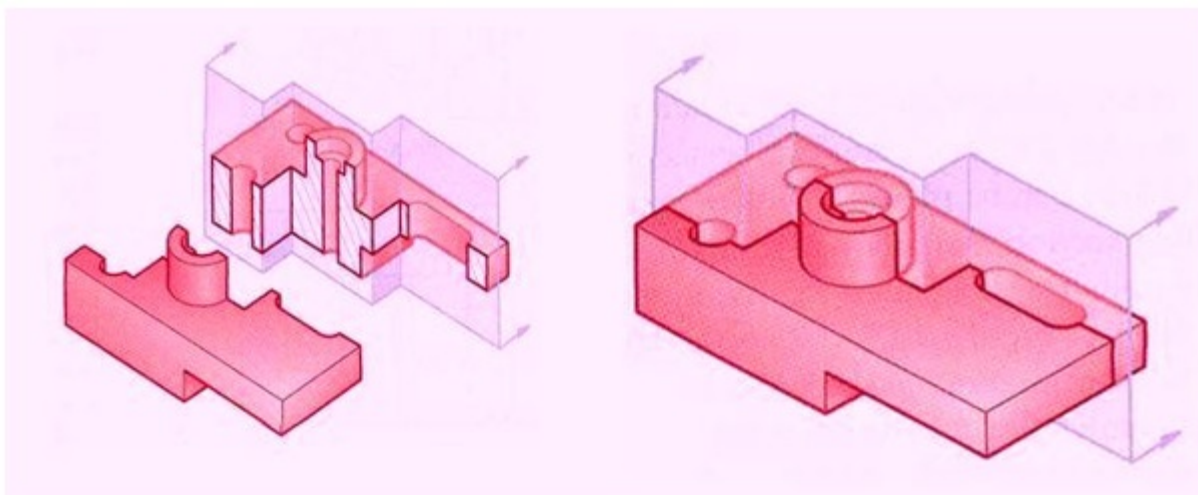

Figure 3. Illustrating an offset section
- (c) Offset section, where the sectional plane bent through the features that are not aligned. Example shown in figure 3.